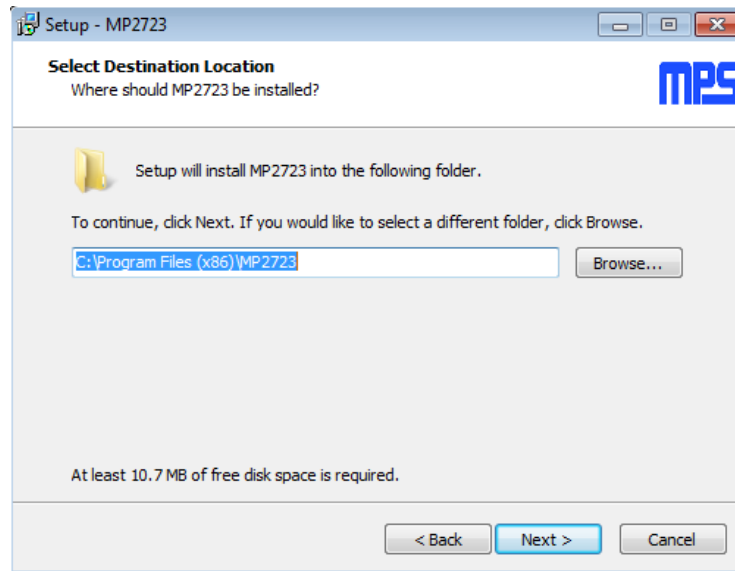

Figure 4: MPS I²C GUI Set-Up Guide
2. Double-click the .exe file to open the software (see Figure 4). If a protection window comes up, click “More info,” then click “Run anyway.”